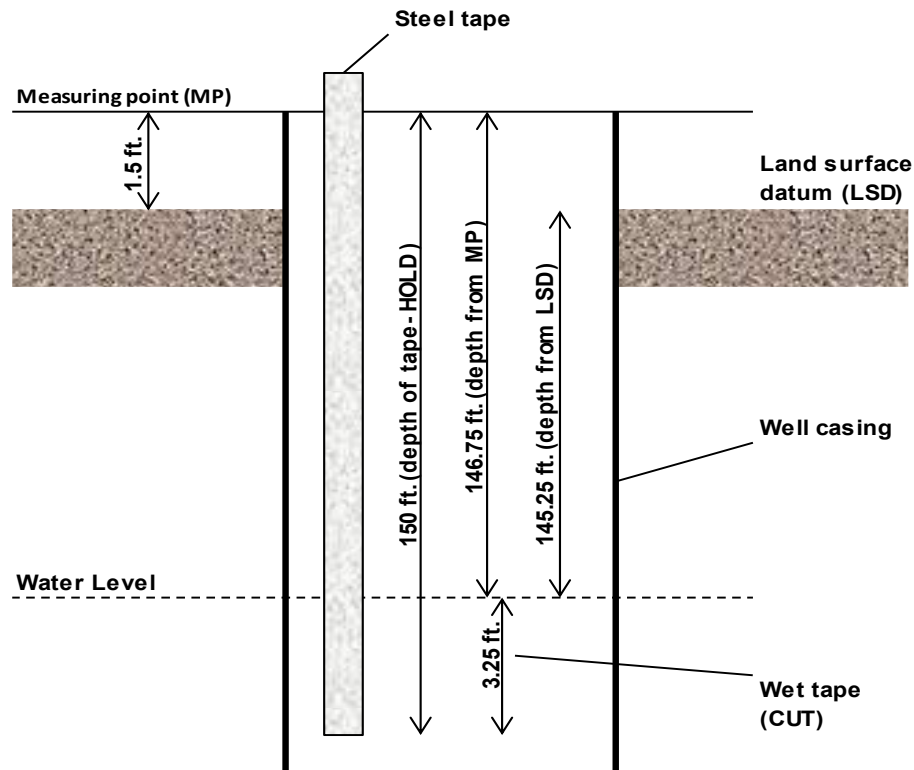

Figure 1. Graduated Steel Tape method of measurement for groundwater levels (not to scale).
- 3) Insert the graduated steel tape at the measuring point (MP) referenced in the field book.
- 10) Subtract the depth of the inserted tape (HOLD) from the wetted mark on the tape (CUT). For example (see Figure 1), if the tape was lowered to 150 feet and the wetted mark was at 3.25 feet the calculation is: $150 - 3.25 = 146.75$.